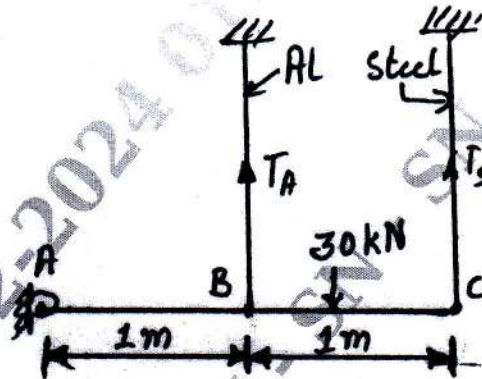

Fig Q9(b)
- b. A uniform rod of length 2m is hinged at A and supported at B and C by aluminium and steel wire of area of cross section 3mm^2 and 2mm^2 respectively. A load of 30kN is applied midway between B and C as shown in Fig Q9(b). If $E_{\text{AL}} = 10^5\text{MPa}$; $E_{\text{Steel}} = 2 \times 10^2\text{MPa}$. Determine :